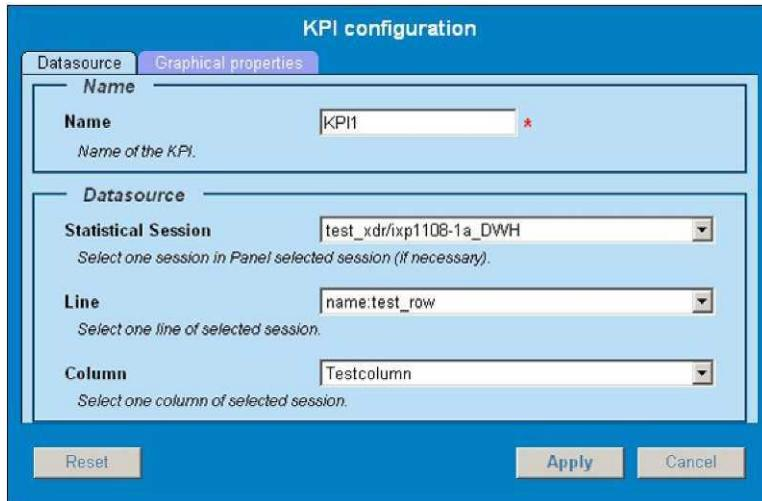

Figure 19: KPI Configuration Screen
1. In a child record, click **Add record** to open the KPI configuration screen shown in Figure 19: KPI Configuration Screen.